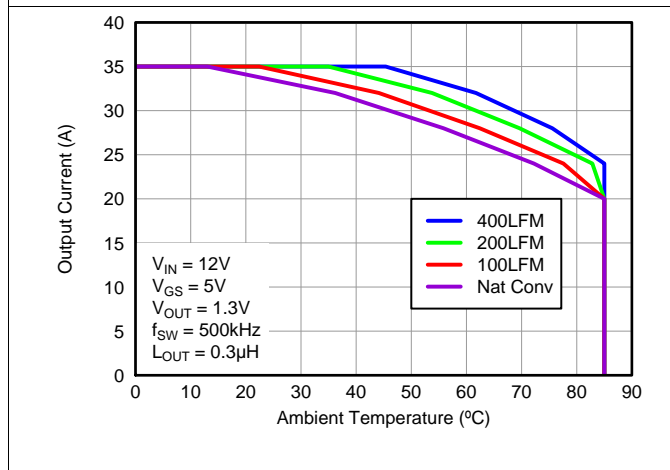

Figure 3. Safe Operating Area – PCB Vertical Mount⁽¹⁾
The SOA curves in the CSD87351ZQ5D data sheet provides guidance on the temperature boundaries within an operating system by incorporating the thermal resistance and system power loss. Figure 3 to Figure 5 outline the temperature and airflow conditions required for a given load current. The area under the curve dictates the safe operating area. All the curves are based on measurements made on a PCB design with dimensions of 4 in (W) × 3.5 in (L) × 0.062 in (T) and 6 copper layers of 1-oz copper thickness.